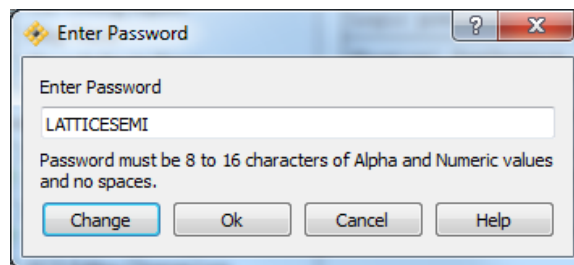

Figure 3.1. Enter Password Dialog Box
1. In the Tools menu, select **Security Settings** to open the passcode file generation tool. The Enter Password dialog opens with a default File Protection Password (file passcode). To enhance password security, change the File Protection Password by clicking **Change** as shown in Figure 3.1.